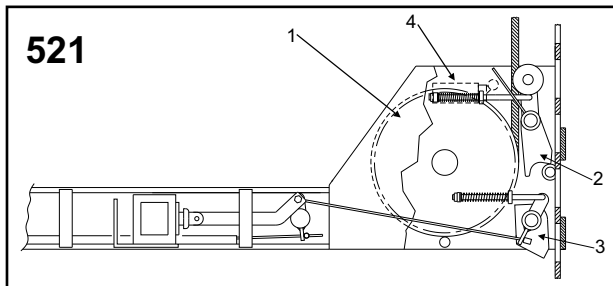

Fig.9
In model 521 (fig. 9 and 10), in case of breakage of the cable, the cable micro switch (4) causes the lock of the lift electrical part and the engagement of the safety wedge, therefore it stops the movable part and the relevant vehicle.